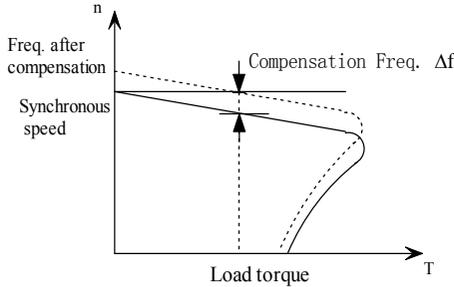

Figure. 5-9-4 Auto slip compensation diagram
- ◆ The motor's slip changes with the load torque, which results in the variance of motor speed. The inverter output frequency can be adjusted automatically through slip compensation according to the load torque. Therefore, the electrical characteristics of the mechanical hardness are improved. As shown in Figure. 5-9-4.